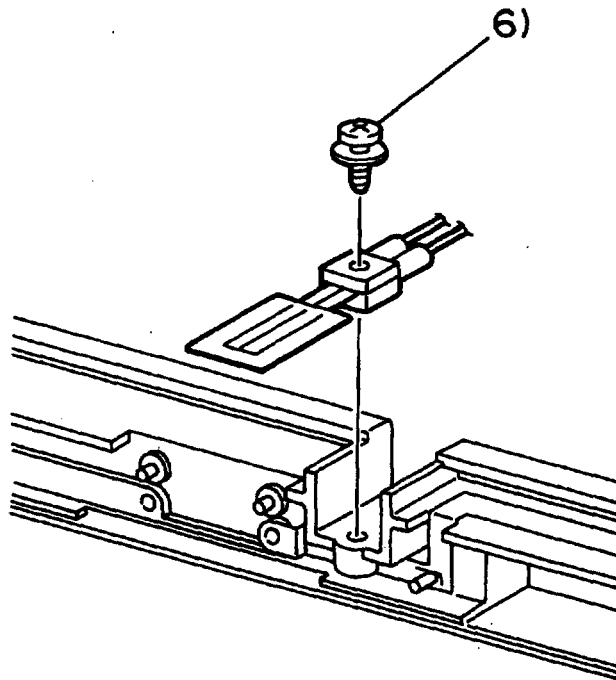

Figure 4-20. Removing the Fuser Thermistor
4. Remove the screw securing the Thermistor (Figure 4-20).